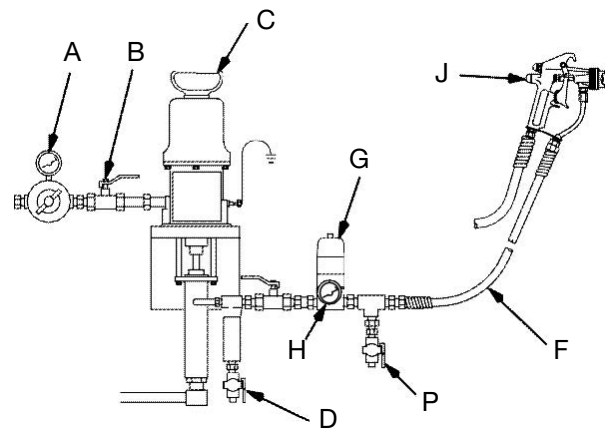

FIG. 1: Typical Installation
The installations shown in FIG. 1 are only a guide for selecting and installing a circulating or direct system; they are not actual system designs. Contact your Graco distributor for assistance in designing a system to suit your needs.
- If you are using an accessory fluid pressure gauge (H in Fig. 1), relieve the spray gun line pressure after you reduce the regulator pressure to ensure a correct gauge reading.
- On a spring-operated regulator, turn the adjusting screw (10) *counterclockwise* to decrease pressure and *clockwise* to increase pressure to the spray gun or extruder gun.